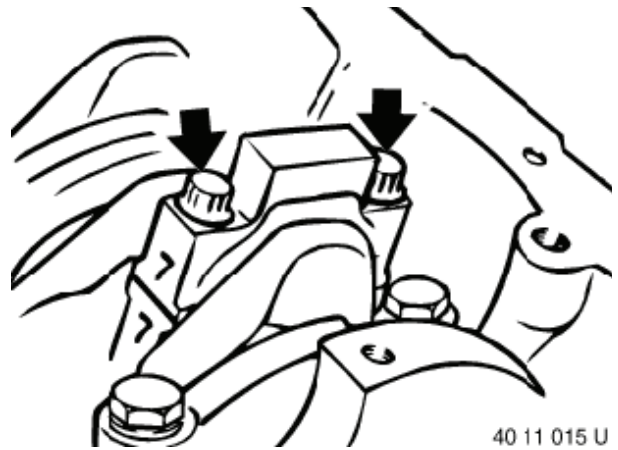

Figure 5-46
7. Remove the connecting rod cap bolts (**Figure 5-46**).